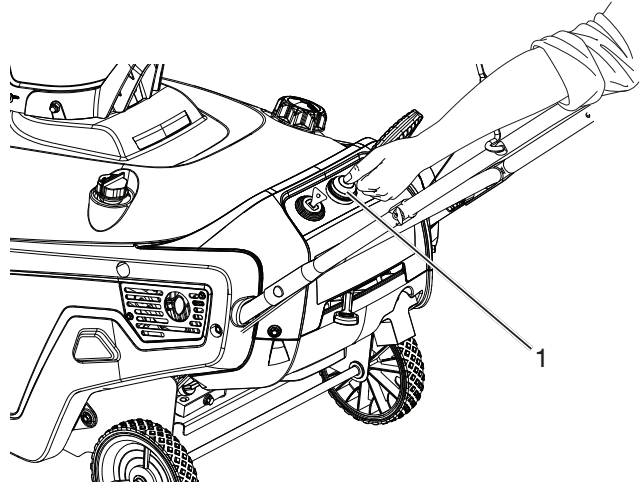

Figure 11
3. Firmly push in the primer 2 times with your thumb, holding the primer in a for a second before releasing it each time (Figure 11).